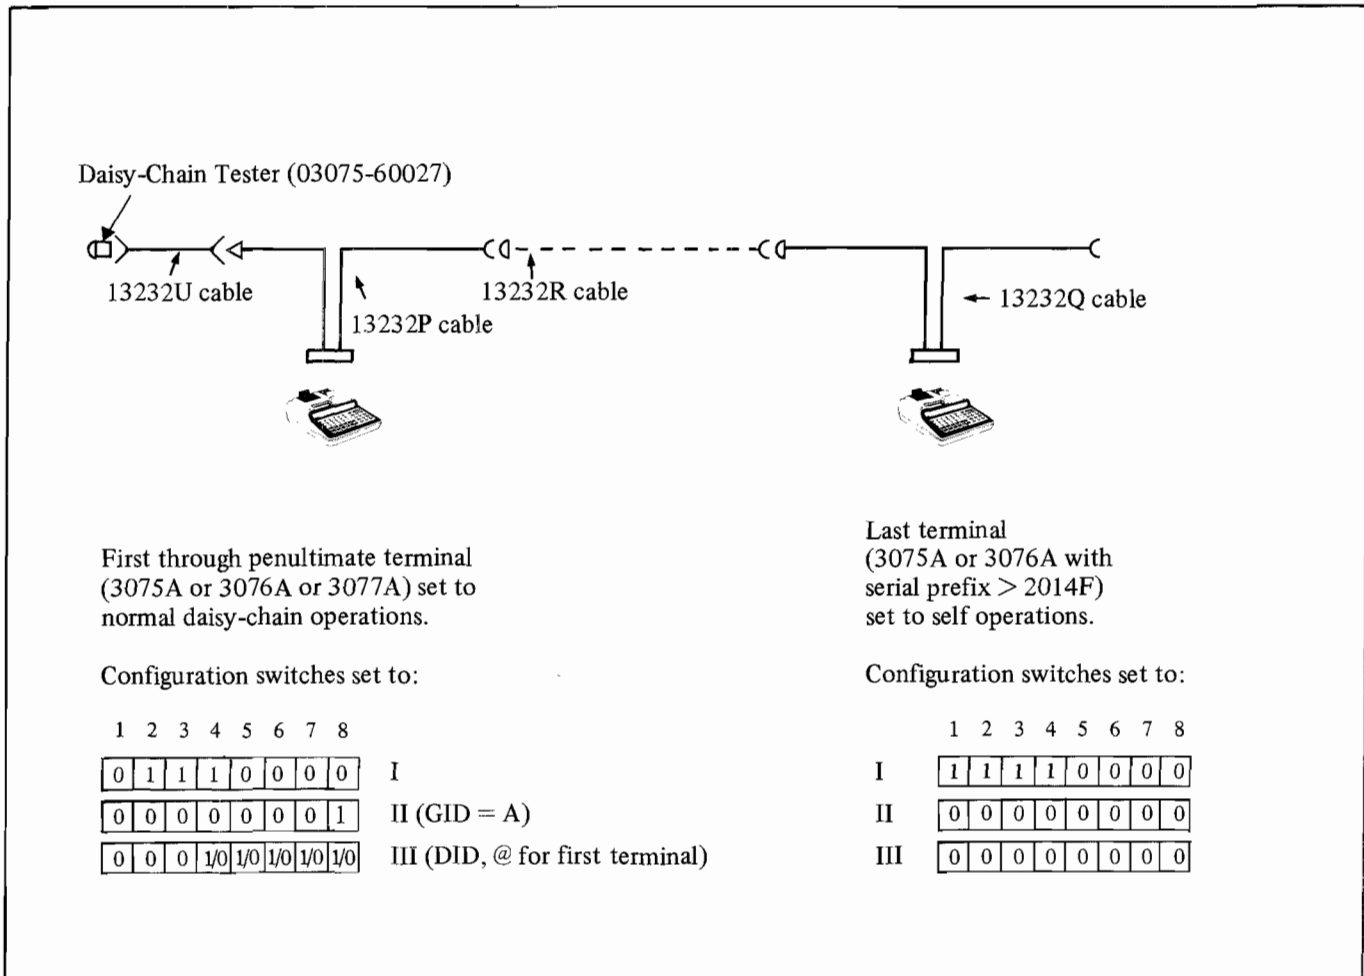

Figure 16-20 Daisy-chain Test
- 1) For hardwire connections, disconnect the 13232U modem by-pass cable from the computer. Then connect Daisy-Chain Tester into the end of the 13232U cable (so it replaces the computer), see figure 16-20.
- 2) For modem connections, disconnect the 13232P modem-to-daisy-chain cable from the modem. Then connect a 13232U cable to the 13232P cable. Connect the Daisy-Chain Tester into the end of the 13232U, see figure 16-20.
- 3) The last terminal on the daisy-chain must be a 3075A/3076A with a serial prefix of 2014F or above. Set this terminal for self operation with a communications test and odd parity by setting rear panel terminal configuration switches I-1 to 1, I-2 to 1, I-3 to 1 and I-4 to 1 and the remaining switches to 0, see figure 16-20. Ensure the terminal correctly performs the self checks described in section 16-11.
Figure 16-20 shows the switch settings.